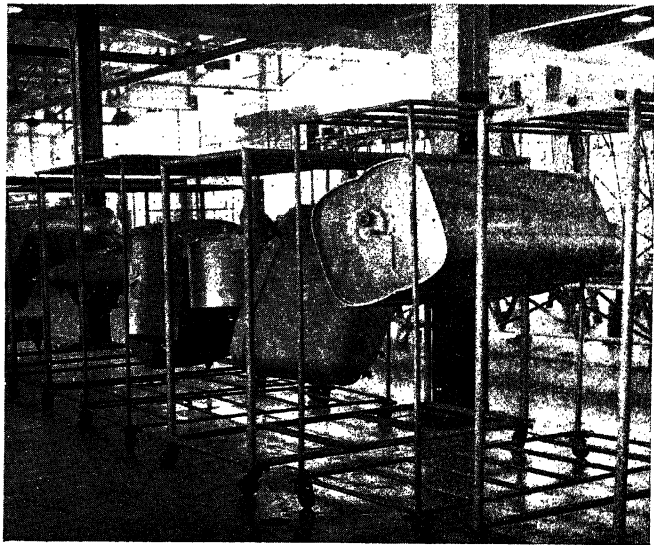

FIG. 12.—Storage racks for gas tanks at San Diego. (*Official U.S. Navy Photograph.*)
**Storage.**—Gasoline and oil tanks are stored and handled on the racks seen in Fig. 12, which also provide transportation from the tank repair shop to the plane where they are to be installed. In the meantime they are kept safely out of the way of other material.